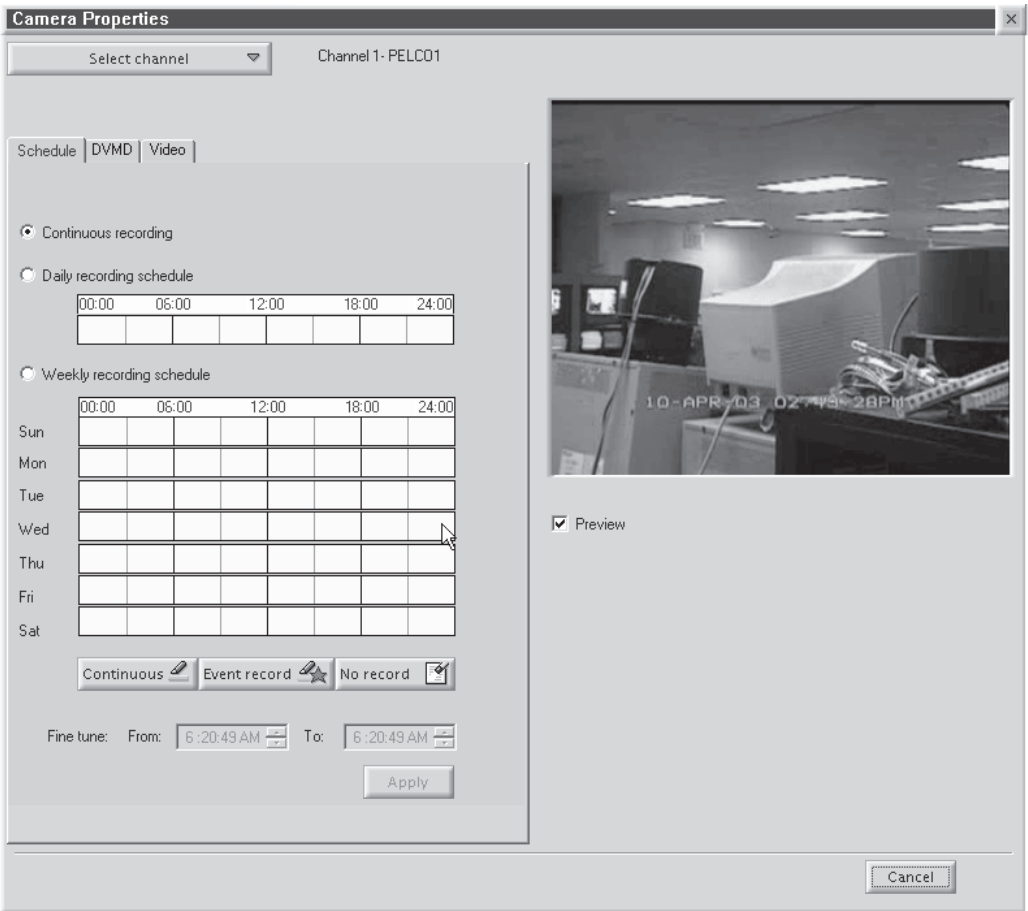

Figure 81. Continuous Recording Schedule Page
1. Select the "Continuous recording" radio button. (This is the default setting and should already be selected the first time you select a channel.) Refer to Figure 81.